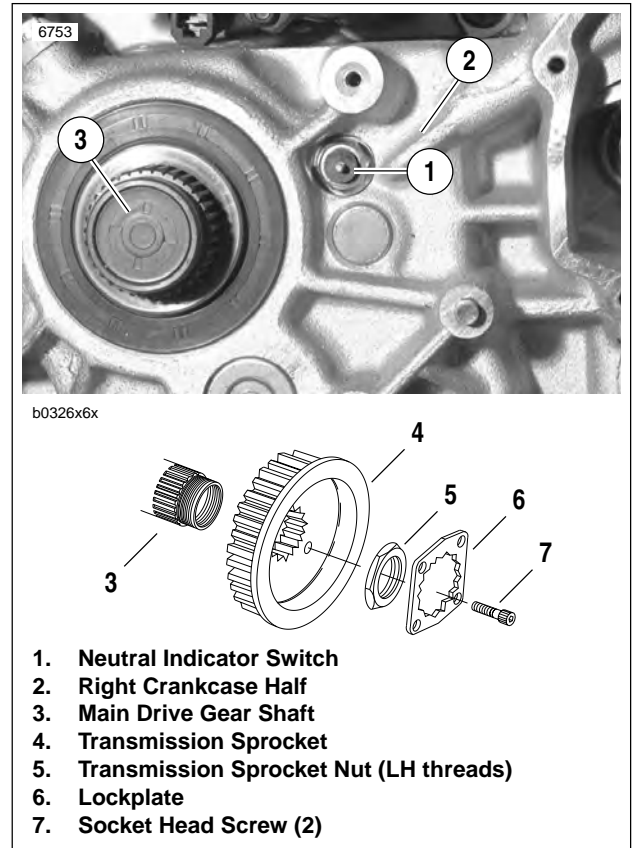

Figure 7-72. Neutral Indicator Switch
See Figure 7-72. The neutral indicator switch (1) is threaded into the transmission portion of the right crankcase half (2); it is immediately forward of the main drive gear shaft (3). The sprocket cover must be removed to test the switch. If switch requires replacement, secondary drive belt and transmission sprocket must also be removed; there is not enough clearance to allow the removal of the switch without first removing the transmission sprocket.
2. See Figure 7-72. Disconnect wire lead from neutral indicator switch (1).
3. See Figure 7-72. Place transmission in first gear. Remove two socket head screws (7) and lockplate (6).